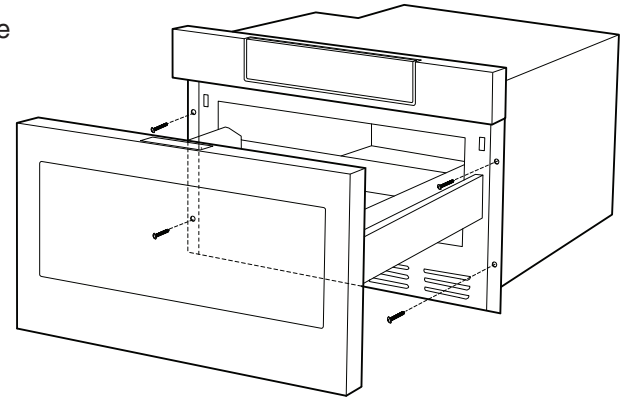

Fig. 1
1. Open the Drawer to access the **(4)** mounting screws holding the unit on to the wall or cabinet opening. **(Fig 1)**.